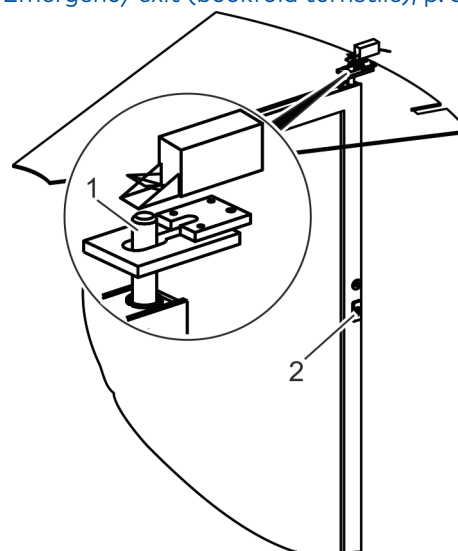

Fig. 36 Floor locking device (example)
Align the rod locking device (Fig. 36/1) in the wing with the locking plate in the ceiling.
3. Lock the wing using the square key (Fig. 36/2).
4. Lock the rod locking device using the lock cylinder (Fig. 36/2) with two full revolutions.